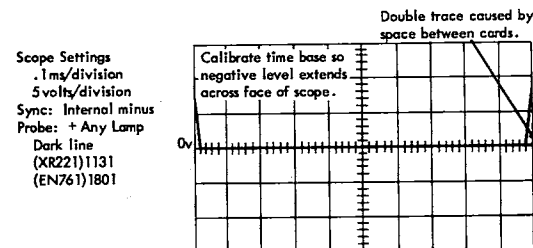

Figure 4-4. Setting All-Cells Pulse to Fill Scope Face
6. Move the scope to the processing unit of the using system. Using internal sync, scope the + Any Lamp Dark line (Logic page XR221 for 1131; logic page EN761 for 1801). Adjust the time base of the scope so that the minus pulse caused by the punch in column 40 completely fills the scope face (Figure 4-4). (The narrow minus pulse is caused by column 40; the wide pulse is caused by the space between cards.)